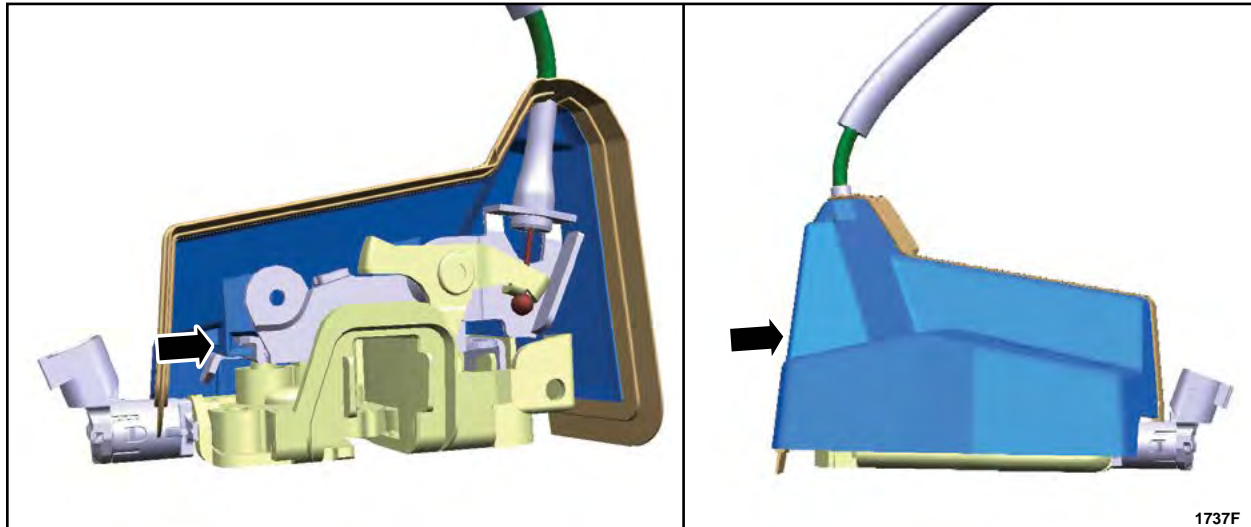

FIGURE 103
NOTE: If the vehicle has previously had a rear lower door latch replaced, it may already have the latest level door latch water shield installed. If the Super Cab rear lower door latch has a large water shield installed as shown in Figure 103, then installation of a *new* water shield is not required.
8. Install a *new* door latch water shield onto the lower rear door latch. See Figure 103.